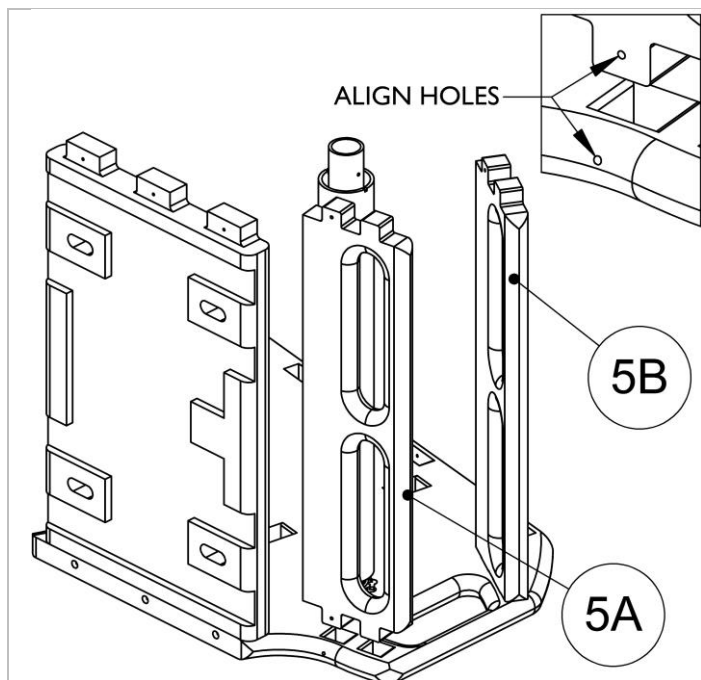

Figure 10
- 2.5) Insert the backstroke handles into the pockets shown, rounded edges toward the outside of the block. Align the holes as shown in detail in Figure 10.